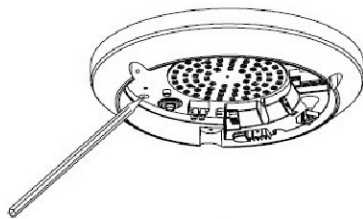

Fig.3
Step3 Put the base of the product on the ceiling to make the drilling mark (as Fig.3)